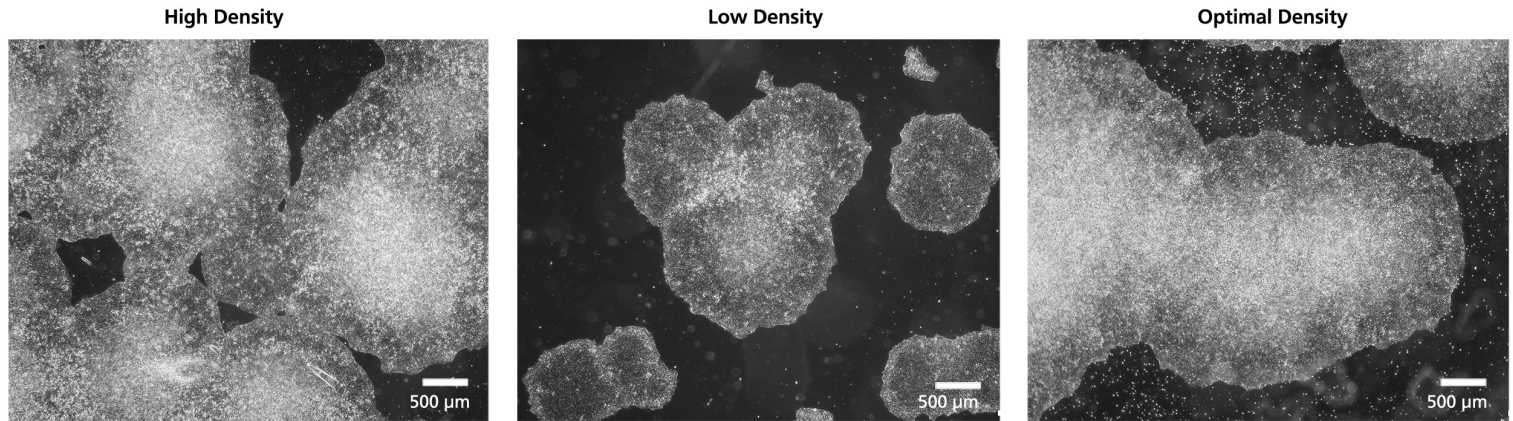

Figure 2. SCTi003-A-1 hiPSCs Demonstrate Varying Colony Densities When Seeded at a Range of Starting Concentrations
14. On Day 6 - 8, select the well with optimal hiPSC colony density for passaging (Figure 2). The culture should consist of healthy hiPSC colonies that are medium to large, compact, and have centers that are dense compared to their edges.